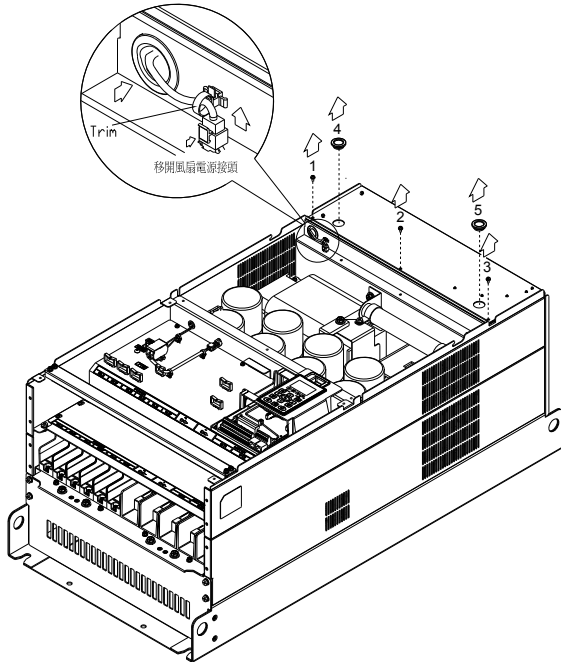

Figure 3
- (3) Loosen screw 1,2,3 and remove the protective ring (as shown in figure 3) Screw torque: 14~16 kg-cm / [12.2~13.9 lb-in.] / [1.4~1.6 Nm]